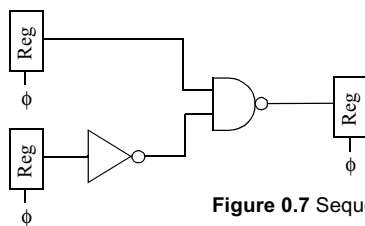

Figure 0.7 Sequential Circuit
4. Consider the circuit shown in Figure 0.7.